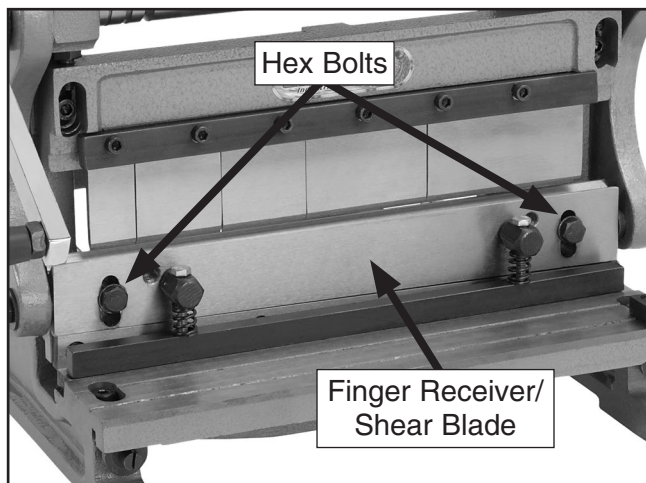

Figure 11. Loosening the hex bolts securing the finger receiver.
5. Loosen the two hex bolts securing the finger receiver/upper shear blade to the frame (see **Figure 11**).